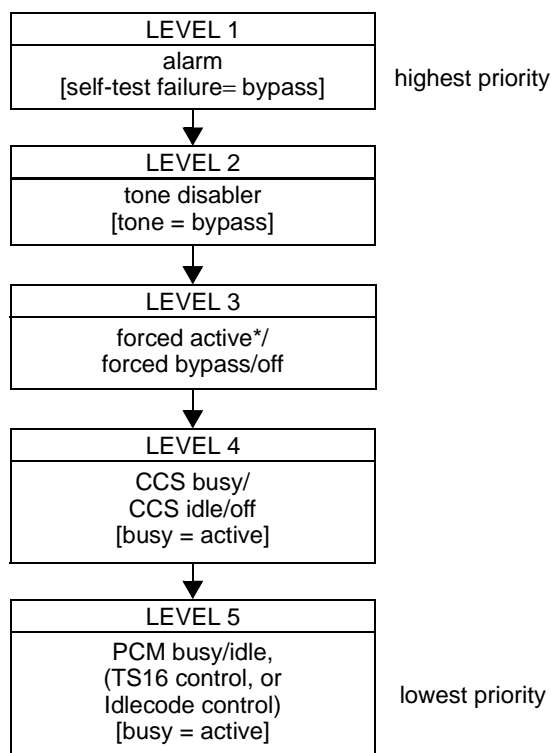

Figure 2-2 Active/bypass decision hierarchy
- 2.39 Echo cancellation control is determined from two sources: the PCM line and the user configured canceller state. The system performs echo cancellation on channels in the active state. Echo cancellation is not performed on channels in the bypass state. A channel's active/bypass state is determined by the decision hierarchy shown in Figure 2-2. Table 2-3 provides examples of how higher level control overrides the lower level active/bypass control.
LEVEL 3: Forced Active*/Forced Bypass (*see Important statement below Figure 2-2)
Note: *See forced active mode **Important** statement below Figure 2-2.
Note: This table reads from left to right. Each column corresponds to a level in the decision hierarchy chart shown in Figure 2-2. The last column on the right is the cancellation state of the channel.